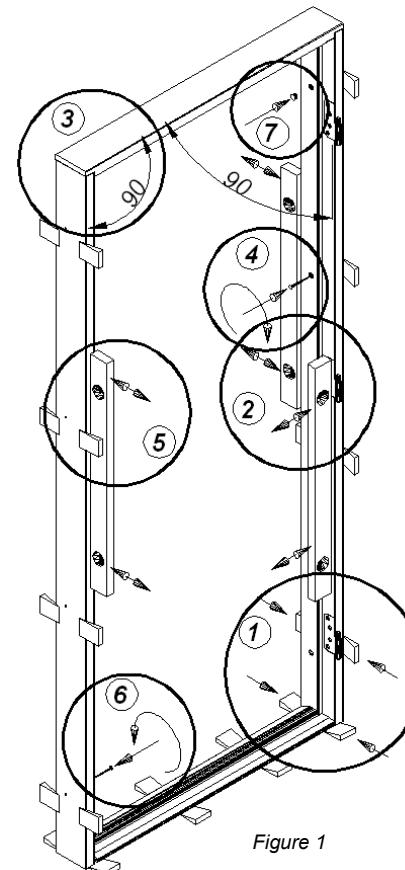
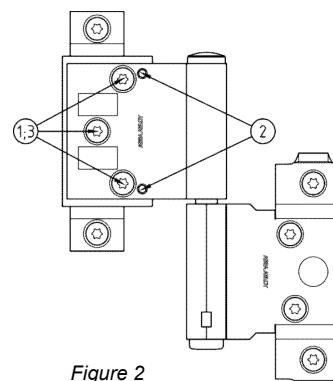

Figure 1
Figure 2
- (See Figure 1) Lift the frame into the aperture and fix it with wedges. Place the wedges near the fastening screws (pos. 1).
- Use a spirit level to ensure that the frame is level (pos. 2) and the corners are right-angled (pos. 3). Make adjustments with the wedges if necessary.
- Screw the vertical frame side with the hinges tightly into the wall (pos. 4).
- Install the door leaf and use it to make sure that the opposite frame side is straight (pos. 5). Ensure that the passage gap between the door leaf and the frame is equal along the door perimeter. Adjust if necessary:
Side adjustment: See Figure 2 (1) Loosen the three marked screws. NOTE not more than three turns. (Torx25). (2) To adjust the door leaf/sash towards the lock side, screw the two socket head screws clockwise (socket head 3mm). To adjust the door leaf/sash towards the hinge side, screw the two socket head screws counter clockwise. (3) Tighten the three marked screws again. Test the function. If necessary, repeat step 1-3 again.